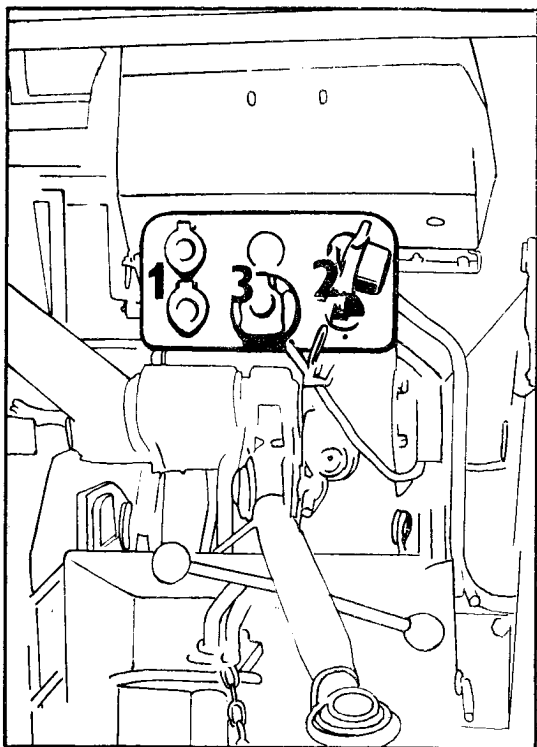

Fig. 28
1. Quick couplings (Fig. 28/1).
2. Head for coupling the trailer hose from the brake air container (Fig. 28/3).
3. Socket for trailer lightening (Fig. 28/2).